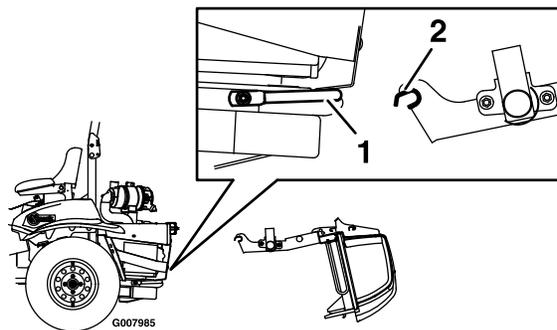

Figure 22
- 1. Lay the hopper assembly down as shown in Figure 22.
- 2. Pick up the bagger frame legs and hook the notch onto the lower bagger mount bar (see Figure 22).